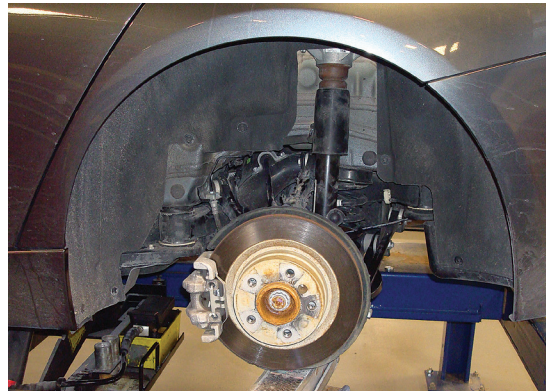

fig. D.3
2. Support the lower control arm (Figs. D.3 & D.4).